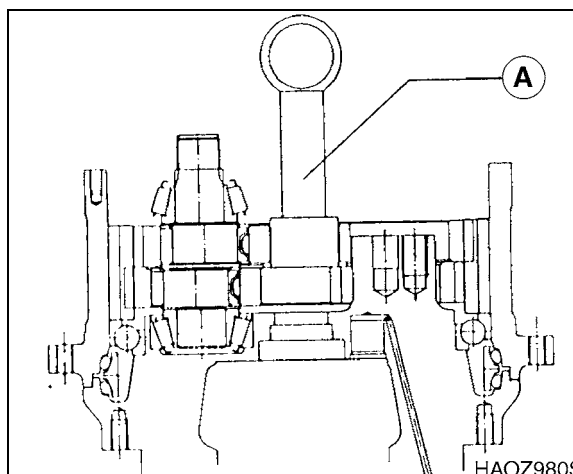

Figure 78
1. Install lifting tool (A, Figure 78) to RV gear assembly.
2. Using a lifting device lower RV gear assembly into spindle (2).
3. Insert twenty-four pins (17) between the gear teeth and pin.